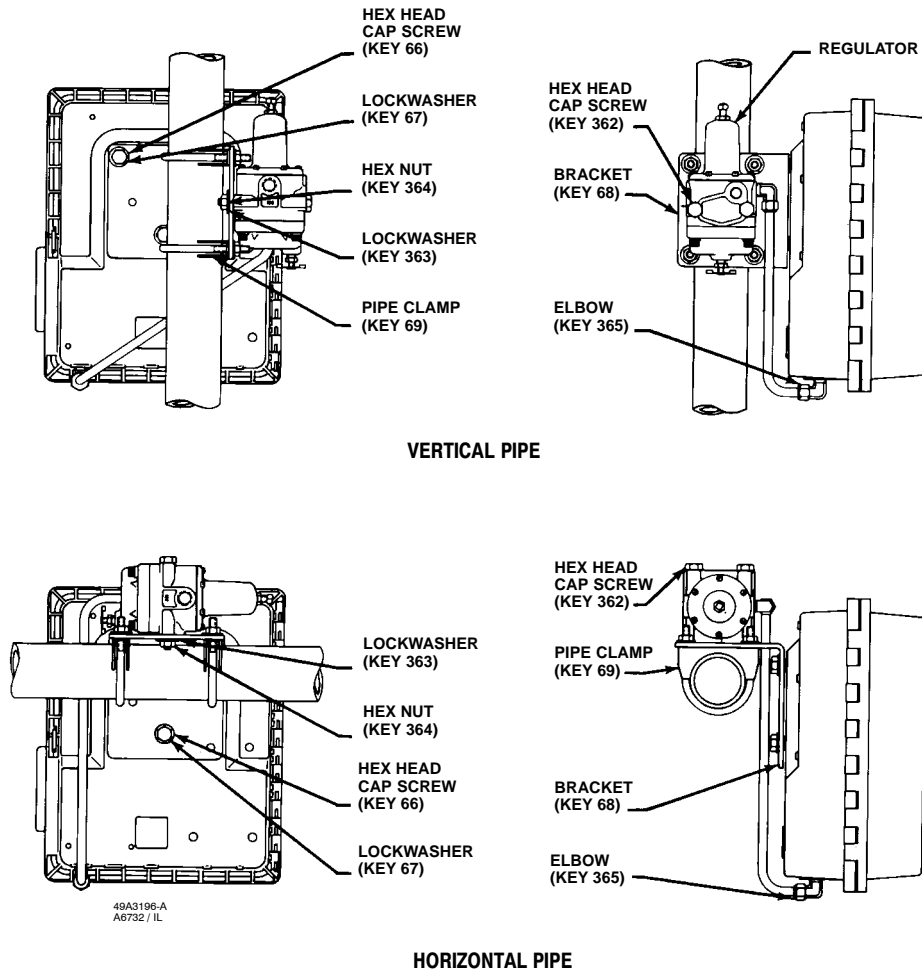

Figure 2-2. Pipestand Mounting
Refer to figure 2-2. Pipestand mounting parts are provided to mount the controller to a 2-inch (nominal) pipe. Attach a bracket (key 68) to the controller with cap screws (key 66) and lock washers (key 67). Attach two clamps (key 69) to the bracket and fasten the controller to the pipe.